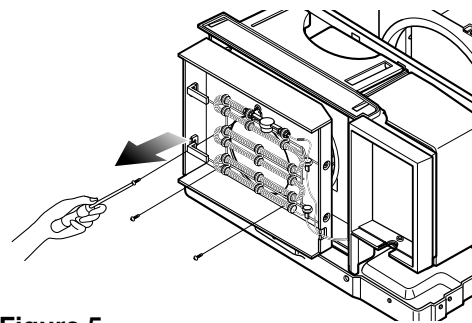

Figure 5
9. Remove the 2 terminals carefully. (See Figure 5, at Electric heater Model)
10. Remove the 3 screws which fasten the Heater Cover. (See Figure 5, at Electric Heater Model)
11. Remove the Heater cover. (See Figure 5, at Electric Heater Model)